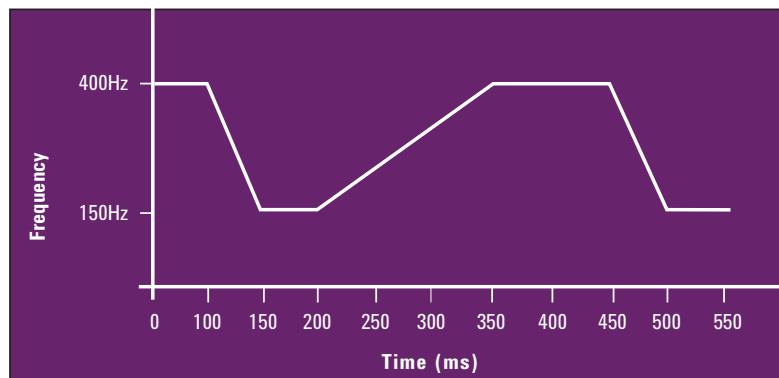

Figure 1: Swept waveform for fourth wheel sensor input (other three held constant)
*Three of the wheel sensor inputs are routed to three wheel inputs and are held at constant amplitude and frequency representing constant velocity (1Vpp at 1kHz for example). The fourth wheel sensor input is applied with a swept waveform in both an upward and downward ramp; see Figure 1. The test verifies that at a certain frequency difference between the wheels, or at a certain change in frequency for a given wheel, the correct isolation or purge solenoids are activated.*